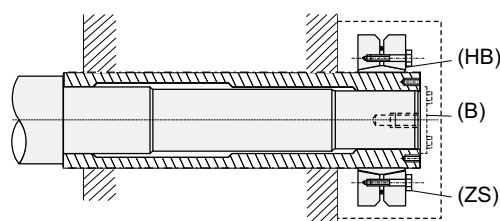

Fig. 12 Condition after assembly
The bush (HB) is contracted onto the hollow shaft by the tensioning screws (ZS) as a result of which the shaft and the bush are connected for co-rotation (Fig. 12).